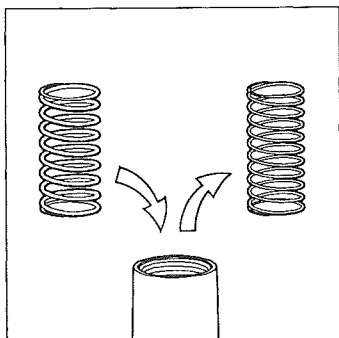

Fig. 9.
- 32) Remove spring and replace with new one. See Fig. 9.
- 39) Remove spring and replace with new one. See Fig. 9.